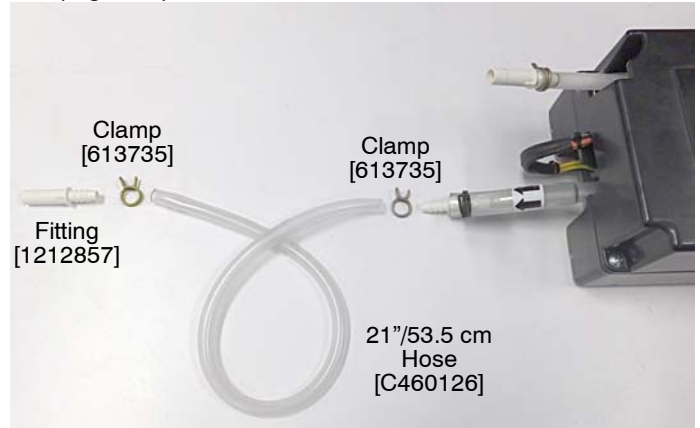

Fig. 3
2. Install the 21"/53.5 cm length hose, hose fitting and clamps to the ec-H2O module outlet hose as shown (Figure 3).